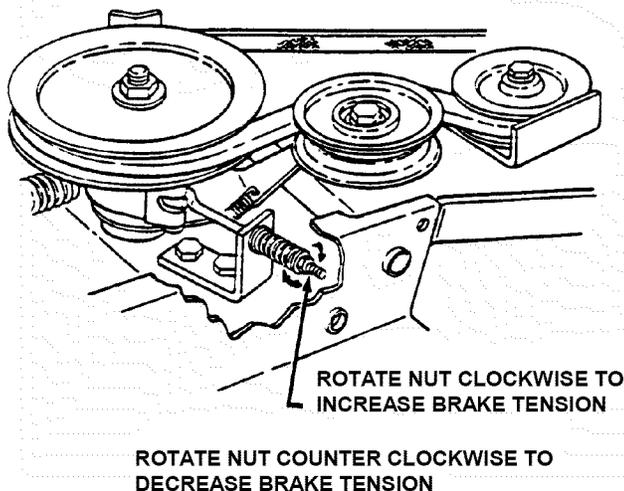

FIGURE 4.4
3. If dimension is greater than 1/8", rotate nut clockwise to increase brake tension. If dimension is less than 1/16", rotate nut counter-clockwise to decrease brake tension. See Figure 4.4.